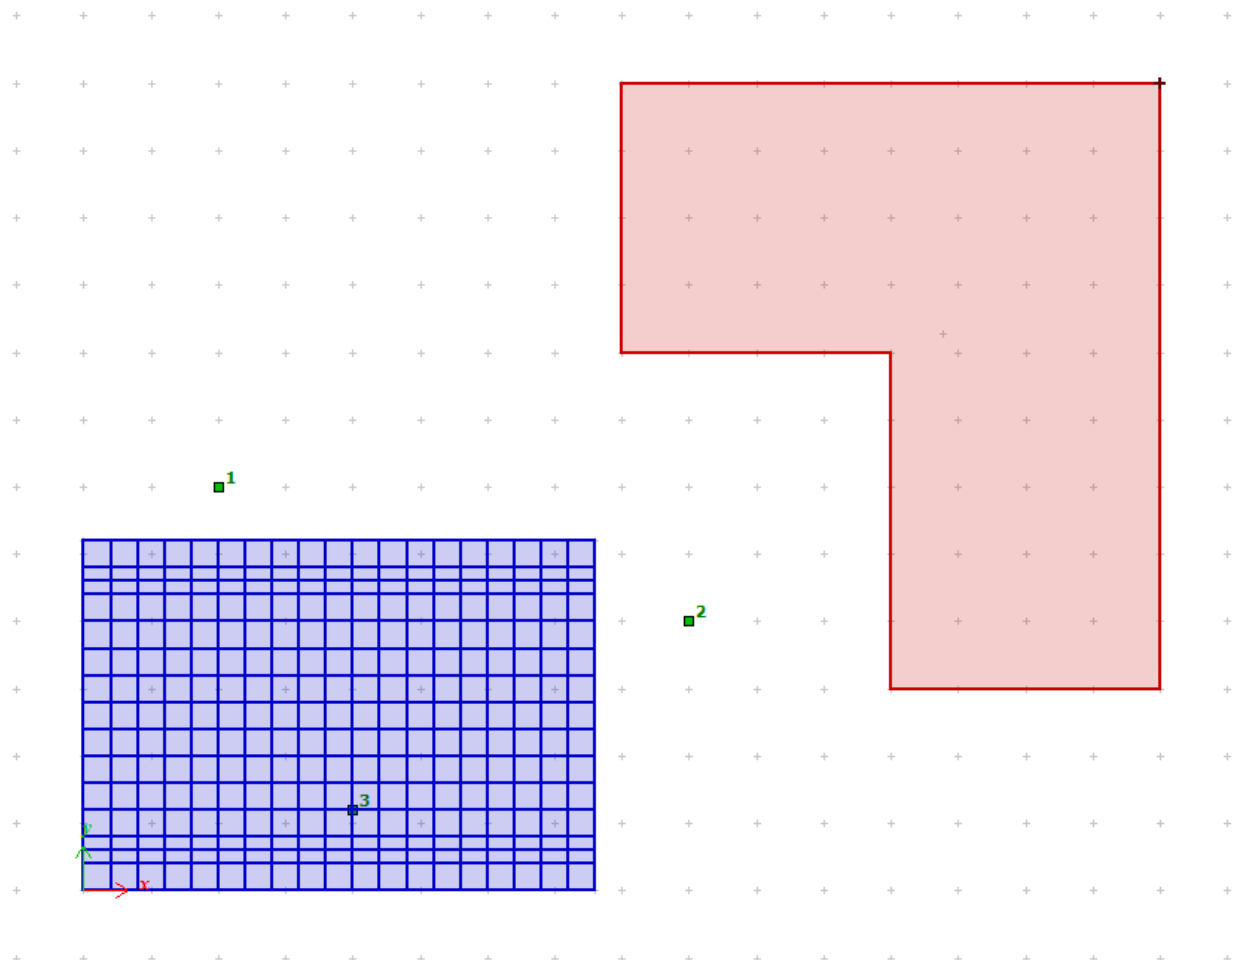

Figure 9.20. Location of load contour on grid of soil
- ⇒ Then specify (with the pointer) load contours on the grid of soil as presented in Fig.9.20 (beginning from the point with coordinate X = 16, Y = 12 and move the pointer 8m left, then 4m back, then 4m right, 5m back, 4m right and come back to initial point).